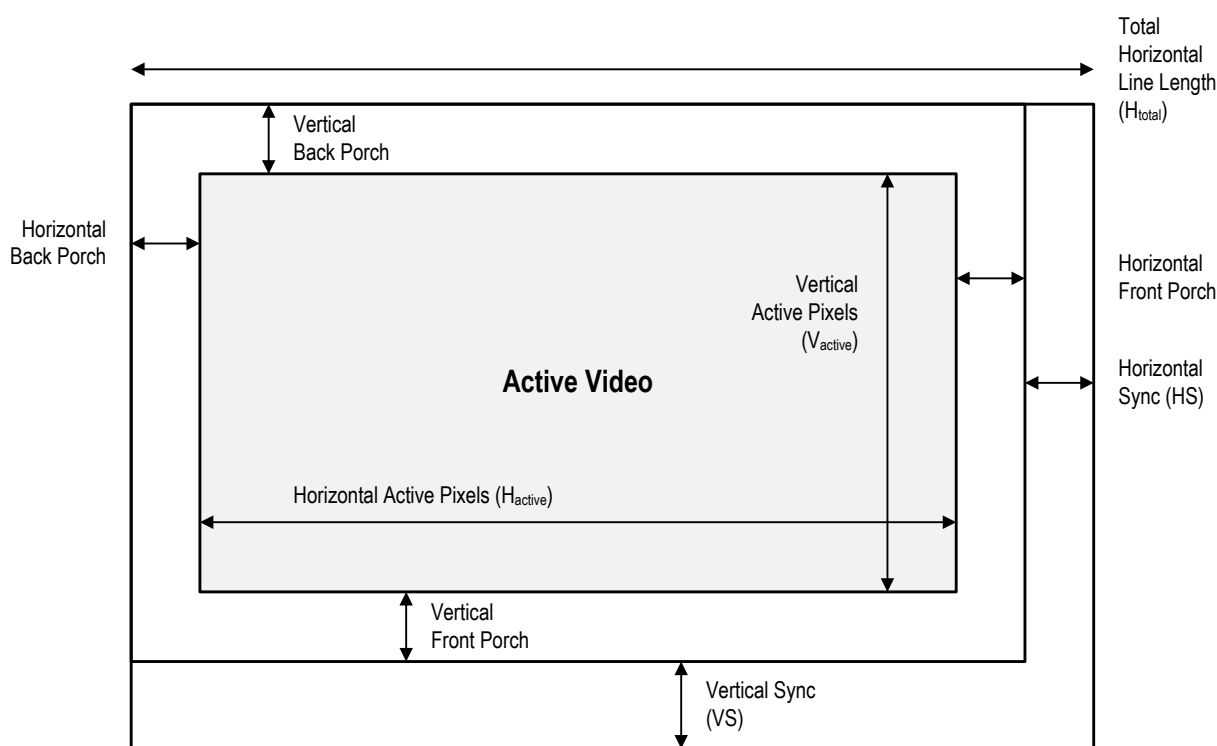

Figure 12. Video Frame Regions
The different regions of a video image are identified in Figure 12. Note that there are variations in how these parameters are defined across the industry and that their usage may differ from analog video. The definitions are used throughout this document and are applicable to all GMSL products. When designing systems, be aware that concepts and parameters presented here may not align with other industry definitions.
These concepts are illustrated in the diagram (Figure 12). The active video (that is, display time) is equivalent to the video screen that actively shows video data. The pixel data advances horizontally one pixel with each successive pixel clock period until the entire horizontal line is formed. The end of the horizontal line is designated by a horizontal sync pulse (HS) and signifies a shift to begin a new horizontal line directly below. This process continues until the entire frame is filled. When the entire frame is filled with horizontal lines, a vertical sync pulse (VS) indicates the end of the frame. The frame then refreshes and the process repeats. Note that cameras and SoCs often express resolution in terms of “active video” (that is, viewable resolution). This designation ignores blanking. The pixel clock and GMSL bandwidth is dependent on the total resolution, however, and includes blanking.